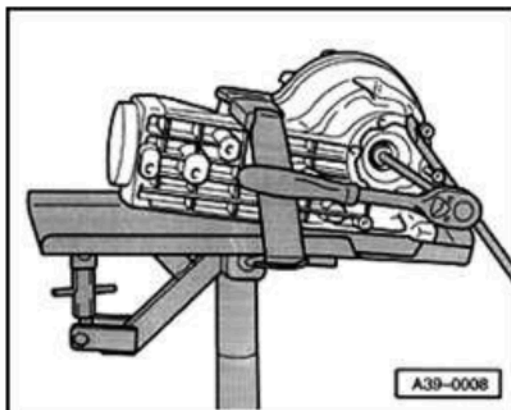

Fig. 65: Removing/Installing Drive Flange
- Removing and installing. See **Fig. 65**
- Removing and installing. See Fig. 65